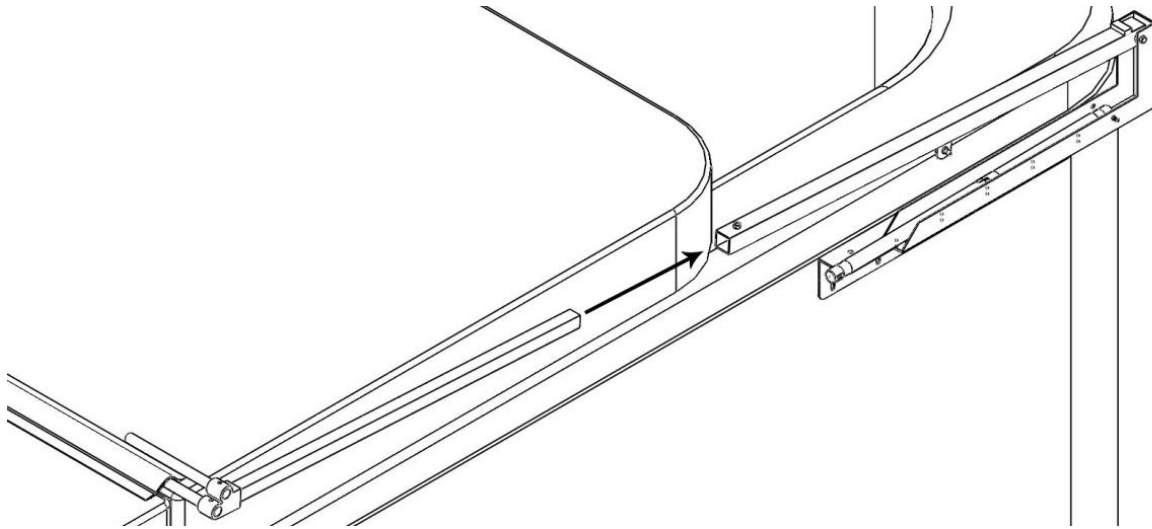

Figure 13
13. Align the Extension Arms (cvDD) so that they will slide into the Pivot Arms (cvCC). Slowly and evenly slide the Pivot Arms (cvCC) into the Extension Arms (cvDD) until the spa cover is centered over the spa, as shown in Fig 13.